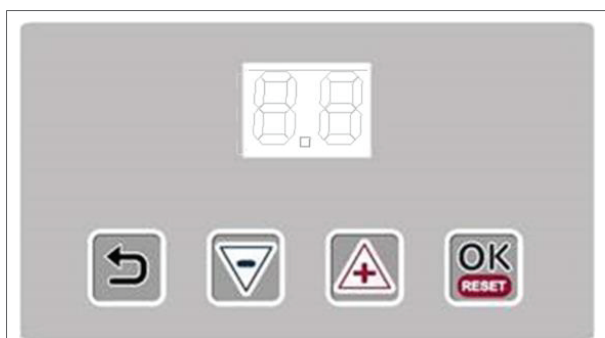

Figure 25 - Using the display
1. Press the (+) and (-) buttons (figure 25) simultaneously. The display shows a blinking 0.
1. Press the (+) and (-) buttons (figure 25) simultaneously.